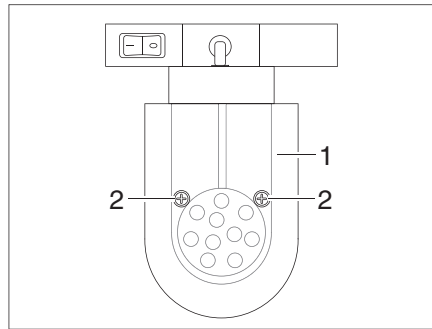

Fig. 156 LED spotlight (movable)
- Loosen the fixing screws (Fig. 156,2).
- Remove the lamp glass cover (Fig. 156,1) carefully.